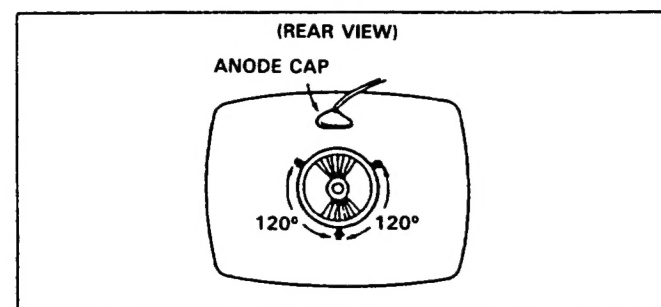

Fig. 2-12
9. Insert three wedges to the positions as shown in Fig. 2-12 to obtain the best circumference convergence.